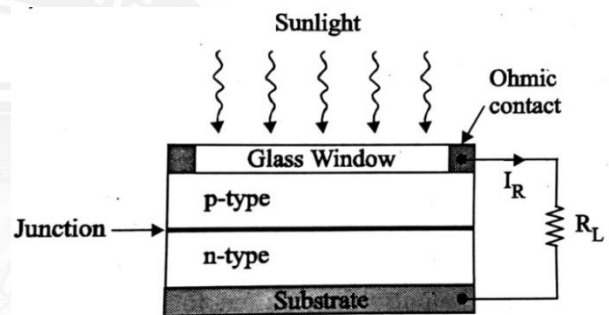

Fig. 4.14
6. Now if a load resistance ' $R_L$ ' is connected across the diode, then a reverse current ' $I_R$ ' flows through the circuit as shown in figure. 4.14.